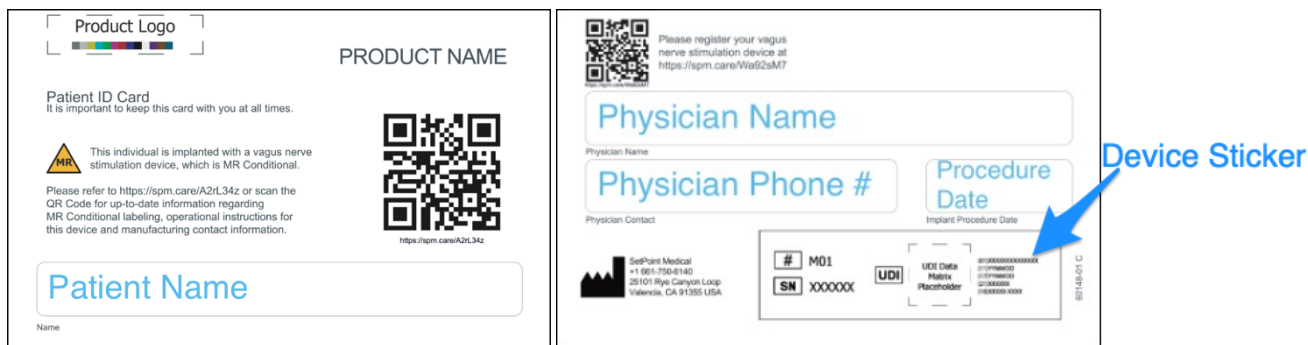
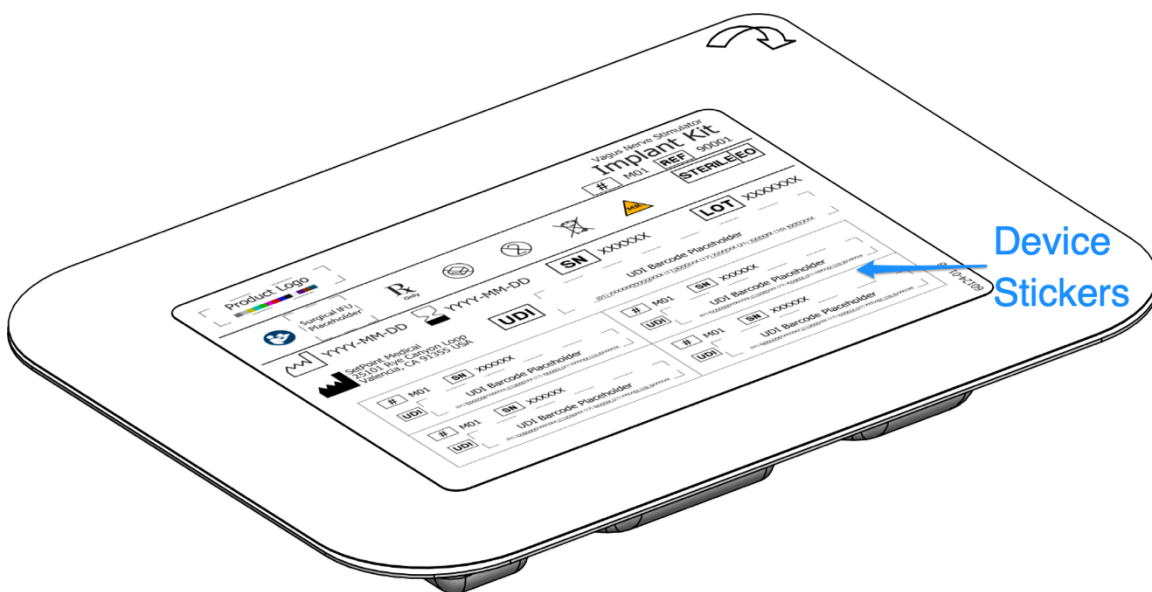
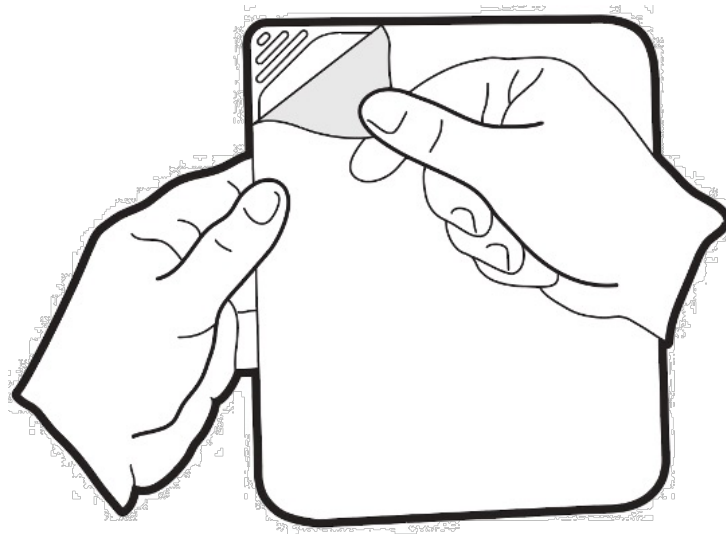

Figure 5 - Sample Patient ID Card (Front and Back)
Figure 6 - Device Stickers on Outer Tray Label
Figure 11 - Opening Tray by Pulling Tab
The Patient ID Card is included in the Implant packaging. The Patient ID Card should be filled out per instructions that accompany the card (see Figure 5) and provided to the patient after the surgery, and before they leave the hospital. Device information, such as model number, serial number and device identifier, can be completed using one of four device stickers provided on the outer tray label in the Implant packaging (see Figure 6). Patients should be instructed to always have their Patient ID Card on hand and present it during security screenings, such as at airports. Additionally, the QR code on the card provides access to critical information regarding the implant, which is necessary to ensure that any treatments are compatible with it. Instruct the patient to always present the Patient ID card to healthcare professionals, dentists, or estheticians before pursuing any additional medical, medical imaging or beauty treatments. Neglecting to inform these professionals about the Implant may cause harm to the SetPoint System and/or may lead to complications with the treatment. If the patient changes doctors, or loses their card, they should contact SetPoint Medical for a replacement card.
2. The outer tray should be opened by pulling the tab on the lid as shown in Figure 11. Set aside the outer tray lid and label with the device stickers on it (see Figure 6 on page 9), to adhere to the Patient ID Card.
4. The inner tray should be opened by pulling the tab on the lid as shown in Figure 11.